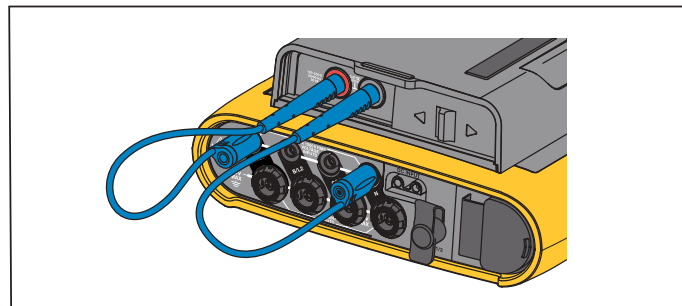
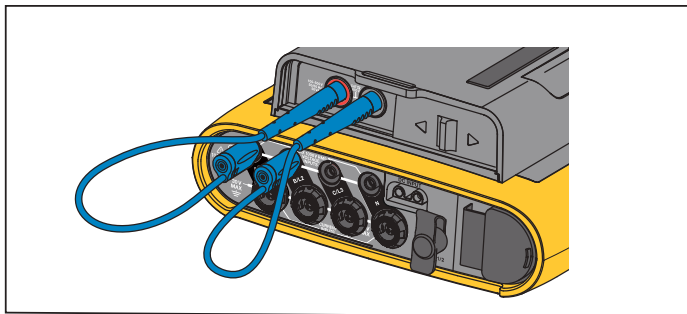

Figure 6. Measurement with Neutral Voltage and Instrument Power Supply
Figure 7. Measurement without Neutral Voltage and Instrument Power Supply
3. Connect the non-stackable plugs (see Figure 6 and Figure 7) with the power supply inputs and the stackable plugs to the Logger. The test leads are rated for measurement/overvoltage CAT III 1000 V and CAT IV 600 V.